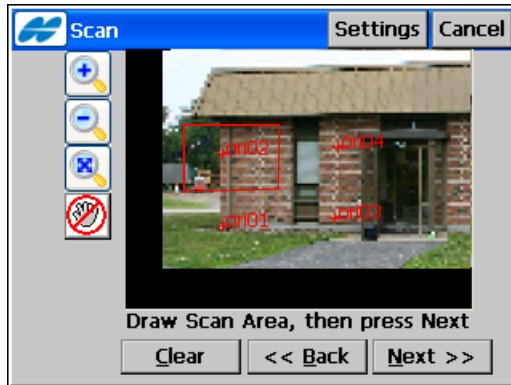

Figure 9-38. Select Scan Area
- **Back** – continues to the *Scanning* screen (Figure 9-38) to select areas for scanning.
Select Area Method 1. Draw a rectangle by pressing the stylus on the screen for the start point and dragging to the end point. When the stylus is lifted, the area is set (Figure 9-38).